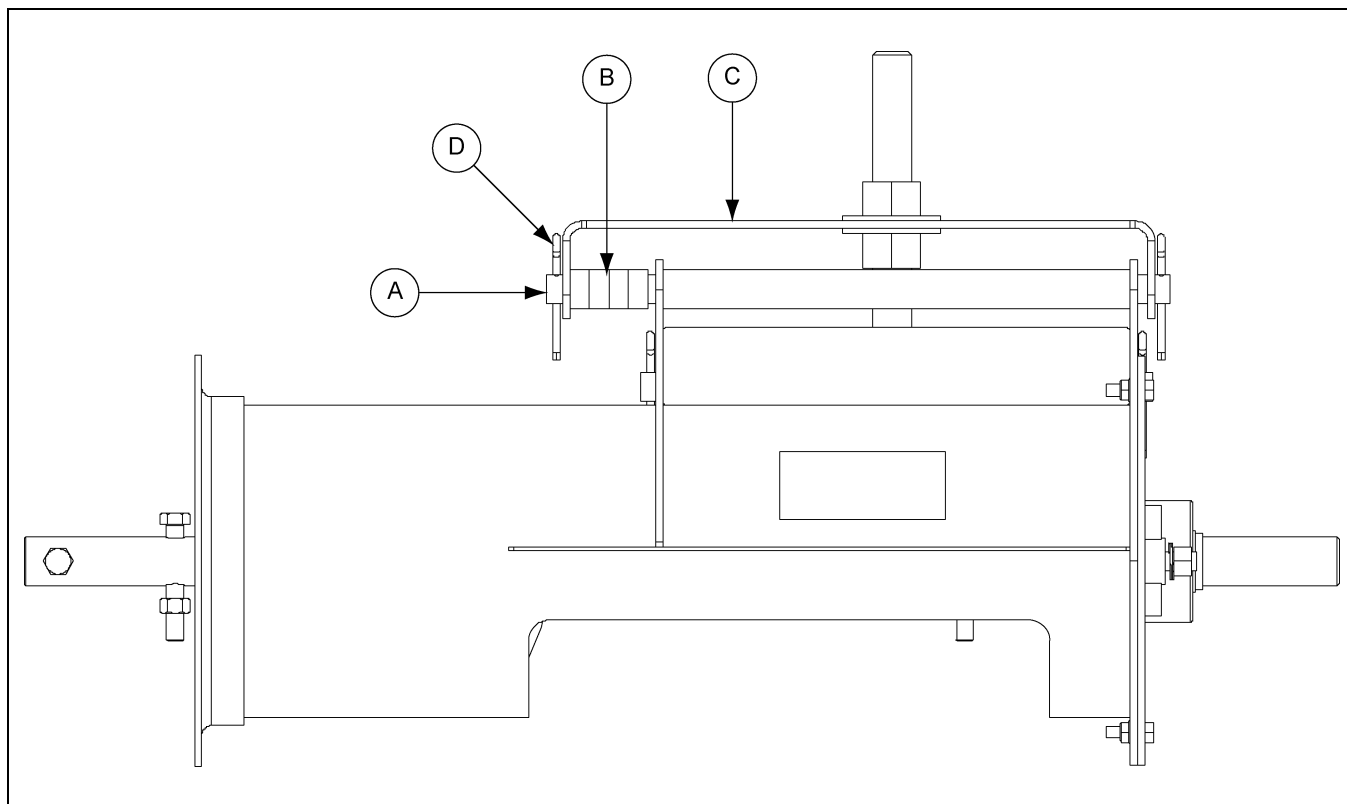

Figure 4F
4. When the pivot rod (A) begins to extend through the pivot tube install the spacers (B), BETWEEN the back plate and the inner face of the motor mount plate (C). (See Figure 4F.)